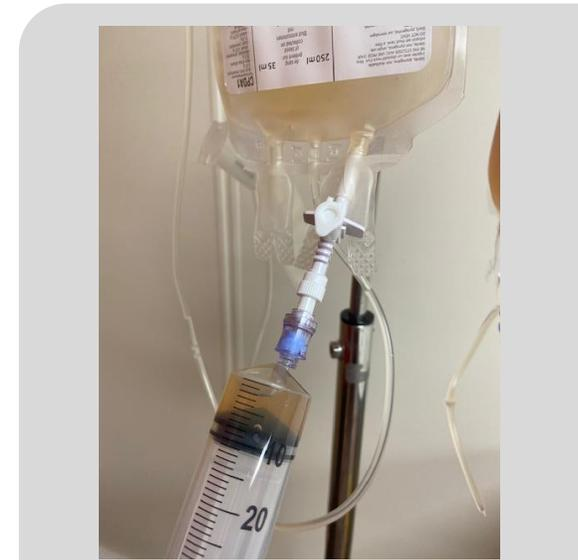

Fig. 18
- Attach the blood component filled syringe to the needle-free valve on the empty collection bag and gently instil the blood component (Fig.18). Repeat using a clean sterile syringe each time until the desired volume has been transferred. Ensure the port and valve are never touched with anything non-sterile.